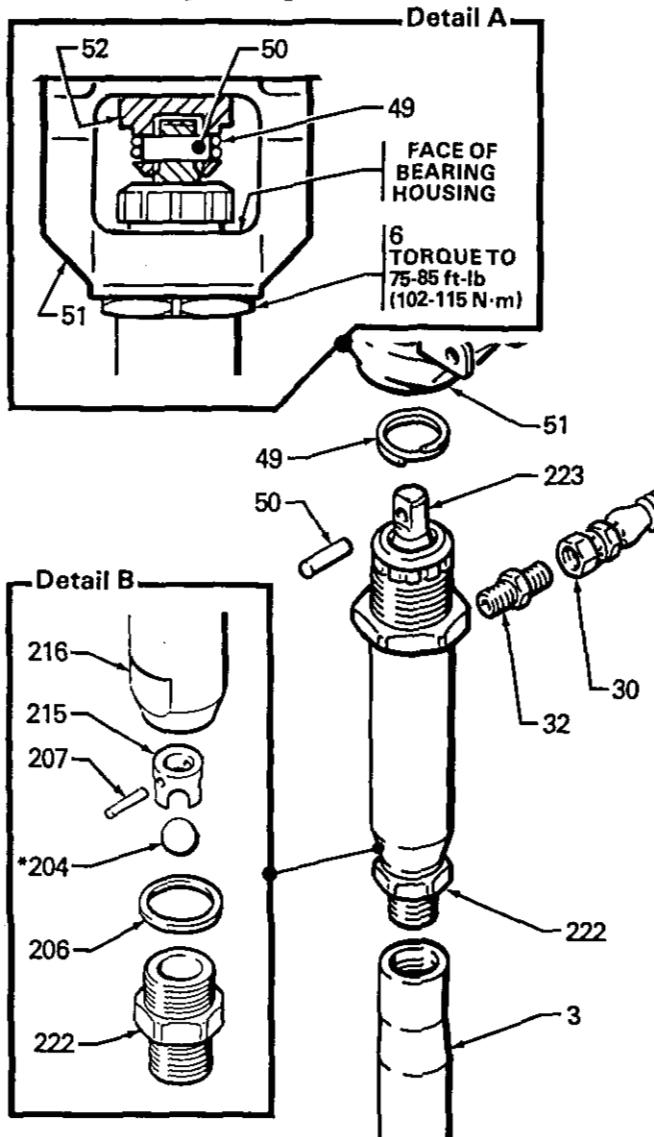
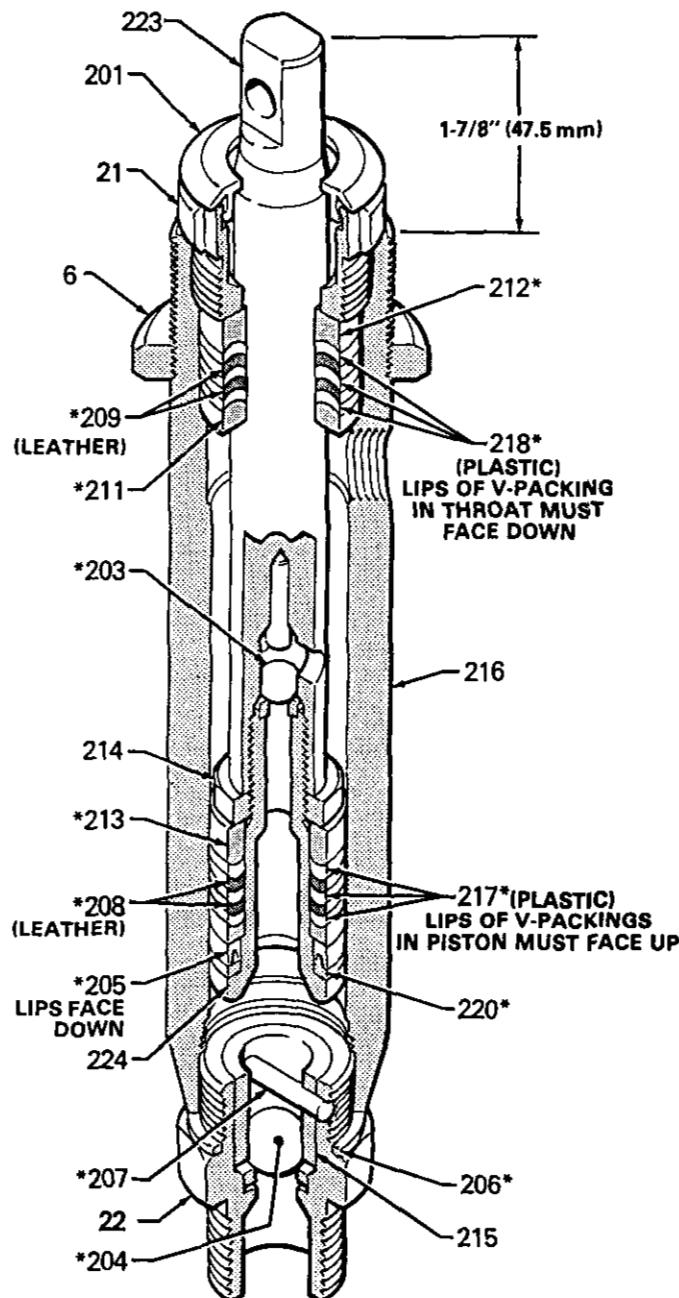

Fig 10
Fig 11
#### Removing the Pump (Refer to Fig 10)
#### Disassembling the Pump (Refer to Figures 10 and 11)
- B. Alternate leather and plastic packings as shown in Fig 11. The lips of the *throat V-packings* face down, against pressure, and the lips of the *piston V-packings* face up, against pressure. The lips of the U-cup wiper (205), *face down*. Incorrect installation damages the packings and results in the pump leaking.
7. *Without changing the tightness of the nut against the packings*, tighten the nut (214) onto the piston rod to 18 to 20 ft-lbs (24 to 27 N·m). If the pen mark on the packings loses alignment, back the nut off and try again.
8. Stack the male gland (211\*), packings (218\*, 209\*) and female gland (212\*), one at a time, into the top of the cylinder. See Fig 11.
9. Install the packing nut (221) and plug (201), but leave loose for now.
10. Insert the piston rod (223) through the *bottom* of the pump cylinder. Push the rod up until it extends 1-7/8 in. (47.5 mm) beyond the top of the cylinder. See Fig 11.
11. Screw down the cylinder locknut (6) until it is finger tight at the bottom of the external cylinder threads.
12. Place flats of the intake valve in a vise. Install a new gasket (206\*) and screw the pump cylinder into the valve. See Fig 10.
13. Screw the displacement pump about 3/4 of the way into the bearing housing (51). Hold the pin (50) up to the pin hole in the connecting rod assembly (52) and continue screwing in the pump until the pin slides easily into the hole. Back off the pump until the top threads of the pump cylinder are flush with the face of the bearing housing and the outlet nipple (32) is straight back. Push the retaining spring (49) into the groove all the way around the connecting rod. Tighten the locknut (6) very tight-about 75-85 ft-lb (102-115 N·m)-with a 2 in. open-end wrench and a light hammer. See Fig 10, Detail A.
Be sure the retaining spring (49) is firmly in the groove of the connecting rod, *all the way around*, to prevent it from working loose due to vibration. See Fig 10, Detail A.
If the locknut (6) loosens during operation, the threads of the bearing housing (51) will be permanently damaged. Be sure to tighten the locknut firmly. See Fig 10, Detail A.
14. Tighten the packing nut (221) just enough to stop leakage, but no tighter. Fill the wet-cup/packing nut 1/3 full with Throat Seal Liquid.